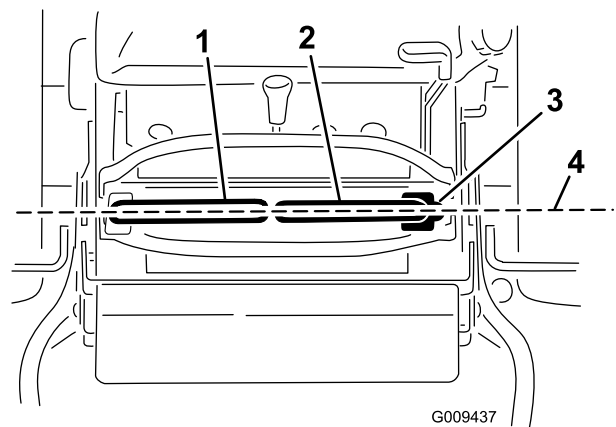

Figure 66
Important: Ensure the tracking of the mower is correct after adjusting the motion control levers. Adjusting the tracking and aligning the motion control levers front to back is the same procedure (Figure 66).
1. After the horizontal alignment is finished, check the front to back alignment (Figure 66).